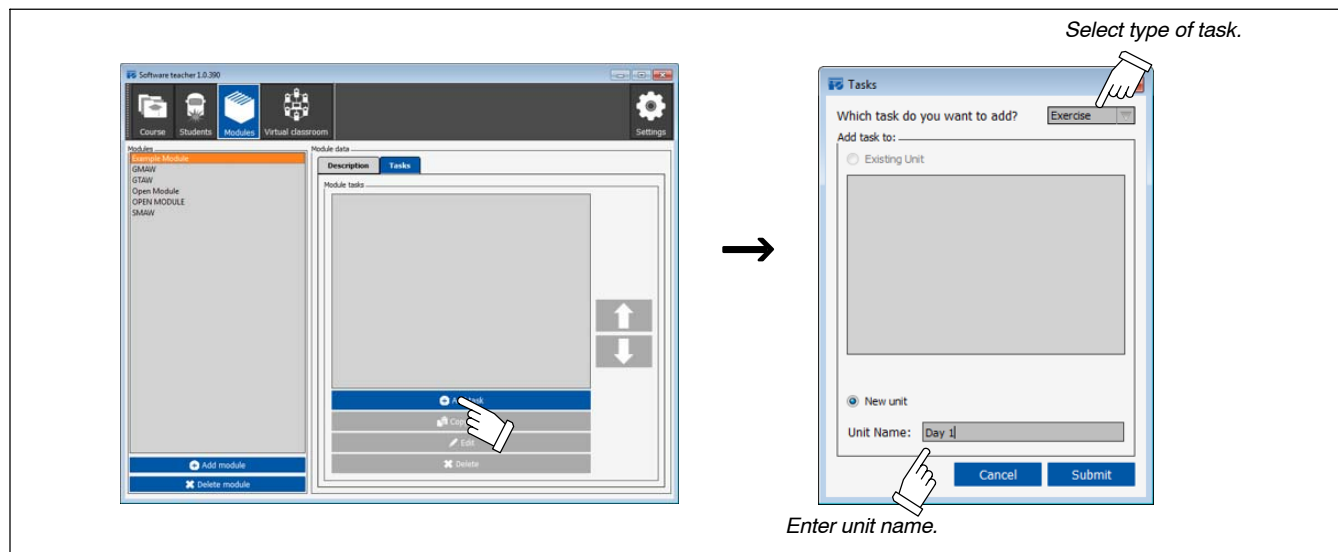
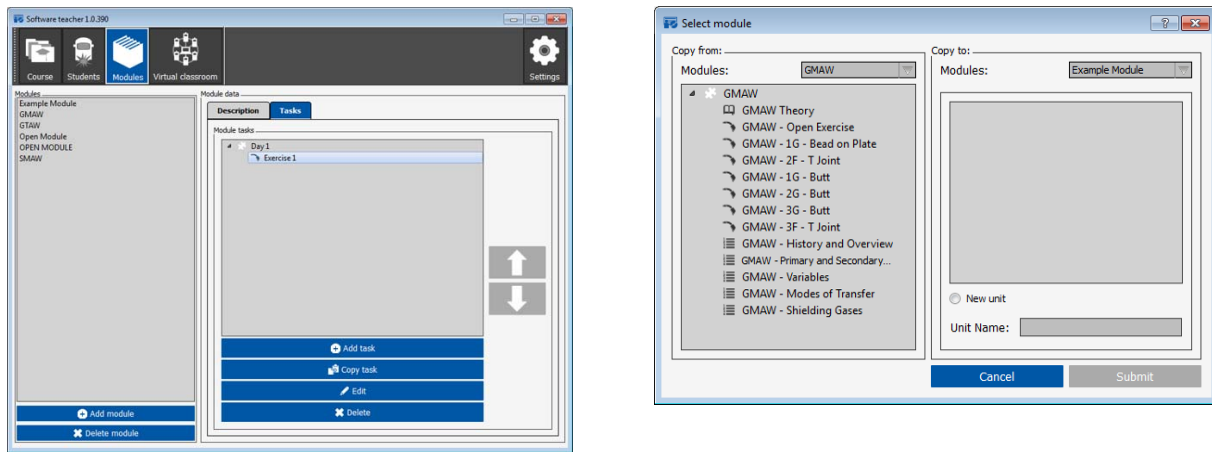

Figure 9-15. Task Screens
Figure 9-16. Task Screens
B. Adding A Task (Figure 9-15 And Figure 9-16)